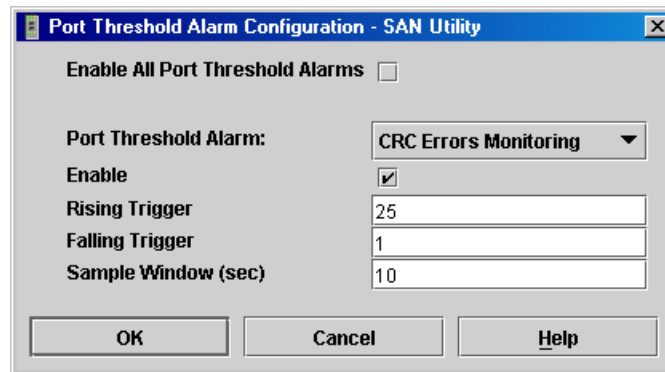

Figure 3-25. Port Threshold Alarm Configuration Window
1. In the Faceplate window, open the Switch menu and select **Port Threshold Alarm Configuration**. The Port Threshold Alarm Configuration window shown in Figure 3-25 prompts you to enable or disable all alarms, select an event, set triggers, set a sample window and enable or disable an individual alarm.